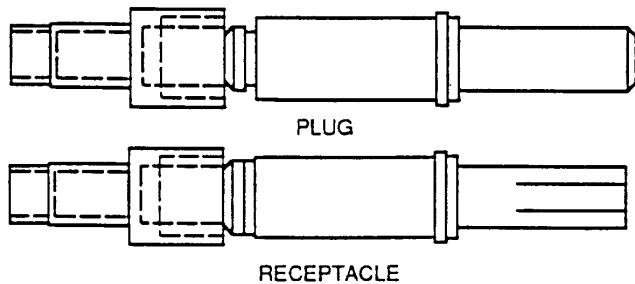

Figure 52. M39029/50 and /51 Contact
i. As shown in Figure 52, hold sleeve in place while crimping the contact end with a M22520/5-01 crimp tool and a M22520/5-08 positioner.